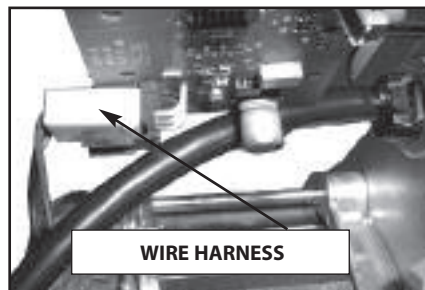

Fig. 3
5. **UNPLUG** wire harness from receiver board. Note harness orientation (Green wire on left facing the connector). **FIG 3**
7. **RECONNECT** wire harness to replacement receiver board. **FIG 3**